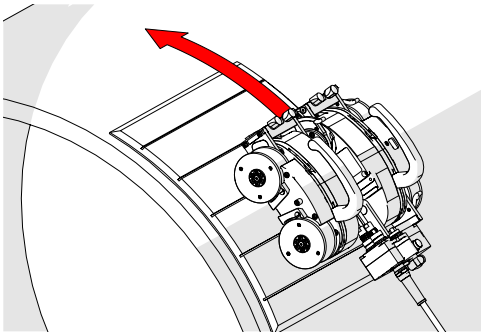
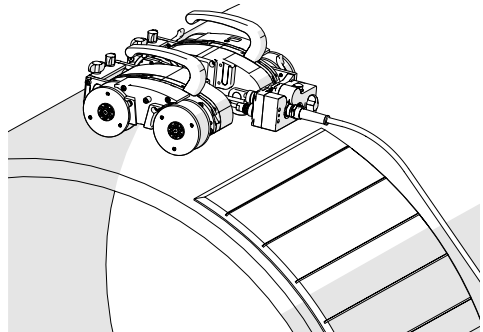

Fig. 286 - Drive crawler off the mat
Fig. 287 - Magnetized to surface
4. Ensure all four wheels of the crawler are held firmly against the installation/removal mat. While holding the crawler, use **Jog Mode** (see “Jog Mode” on page 134) to carefully drive (Fig. 286) the crawler off the installation/removal mat and onto the inspection surface (Fig. 287).
5. Once the crawler is securely on the inspection surface, the user may let go of the crawler (Fig. 287).